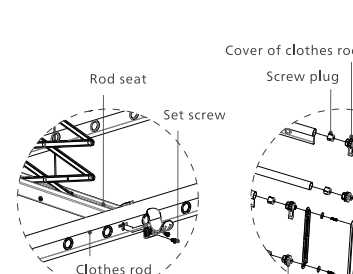

Figure 6
1. As shown in Figure 6, remove screws from rod seat, align the vacant position of the clothes rod with the support plate, and fix with screws.